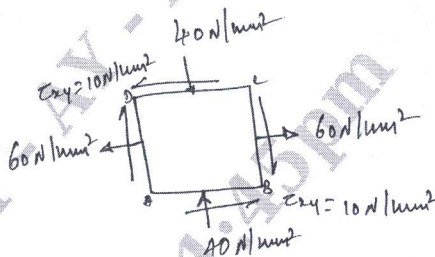

Fig. Q4 (b)
- b. A point is subjected to a tensile stress of 60 N/mm^2 and a compressive stress of 40 N/mm^2 , acting on two mutually perpendicular planes and a shear stress of 10 N/mm^2 as shown in Fig. Q4 (b). Determine the principal as well as maximum shear stress by Mohr's circle method. (16 Marks)